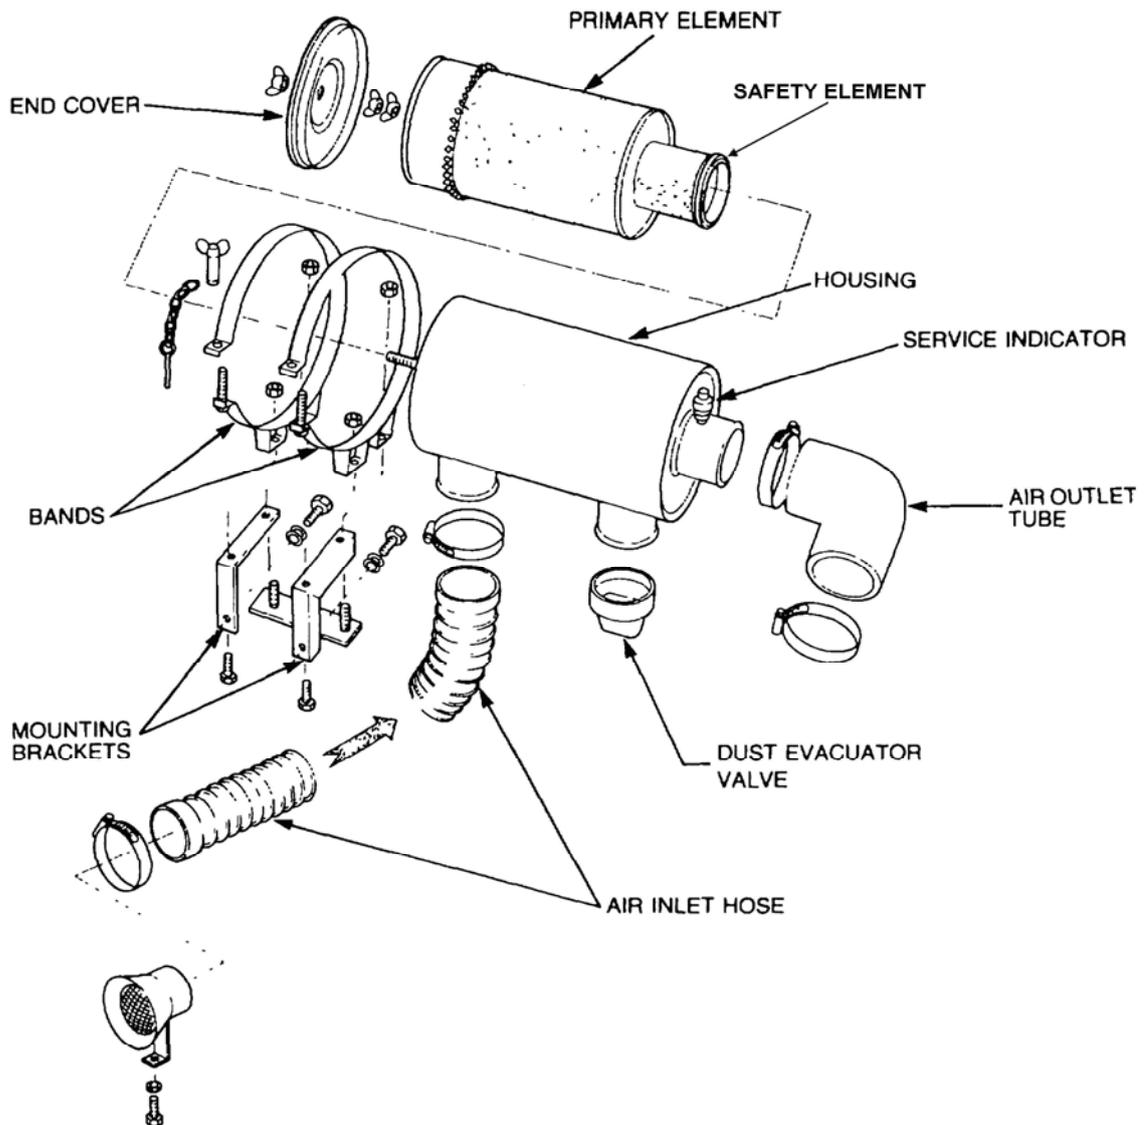

Figure 9 Air Cleaner Assembly – Exploded View
41. The air cleaner is utilised for the filtering of the air used in the engine's combustion process (refer to Figure 9). The air cleaner assembly is mounted on the rear of the engine and held in position by two metal bands. Incorporated within the air cleaner assembly's housing are the primary element and the safety element. The primary or main element is a dry-type paper element with a perforated metal surround and a plastic fin assembly fitted to one end. When the element is installed, the fin assembly is positioned towards the air inlet port in the housing. As air is drawn into the housing, via the air inlet hose, it passes between the fins, which induce a cyclonic twist to the air as it flows through. This action tends to cause the larger or heavier dust particles to be thrown outward, eventually falling to the bottom of the housing. The air then passes through the primary filter, which extracts finer dust particles from the air and retains the particles in the element. Clean air then flows to the engine's air inlet manifold, via the safety element, which is installed as a precautionary measure should the primary filter become damaged.